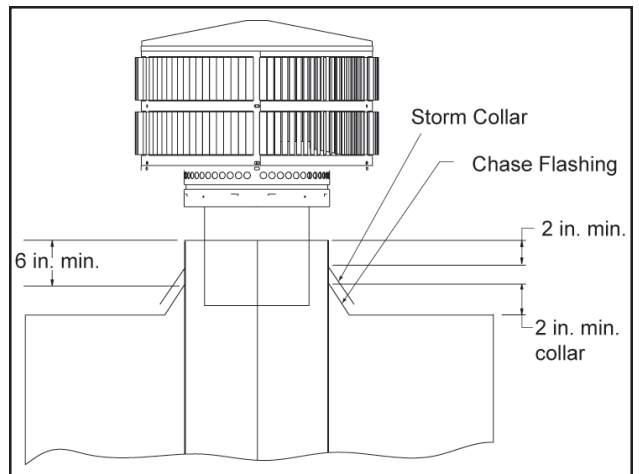

Figure 17 - Installing a TR344 Round Termination Cap
- a. Install the chimney sections up through the ceiling/ roof. When using the TR344 round termination cap, the uppermost section of pipe must extend 6 in. above the roof to allow installation of the storm collar and termination cap. See Figure 17.